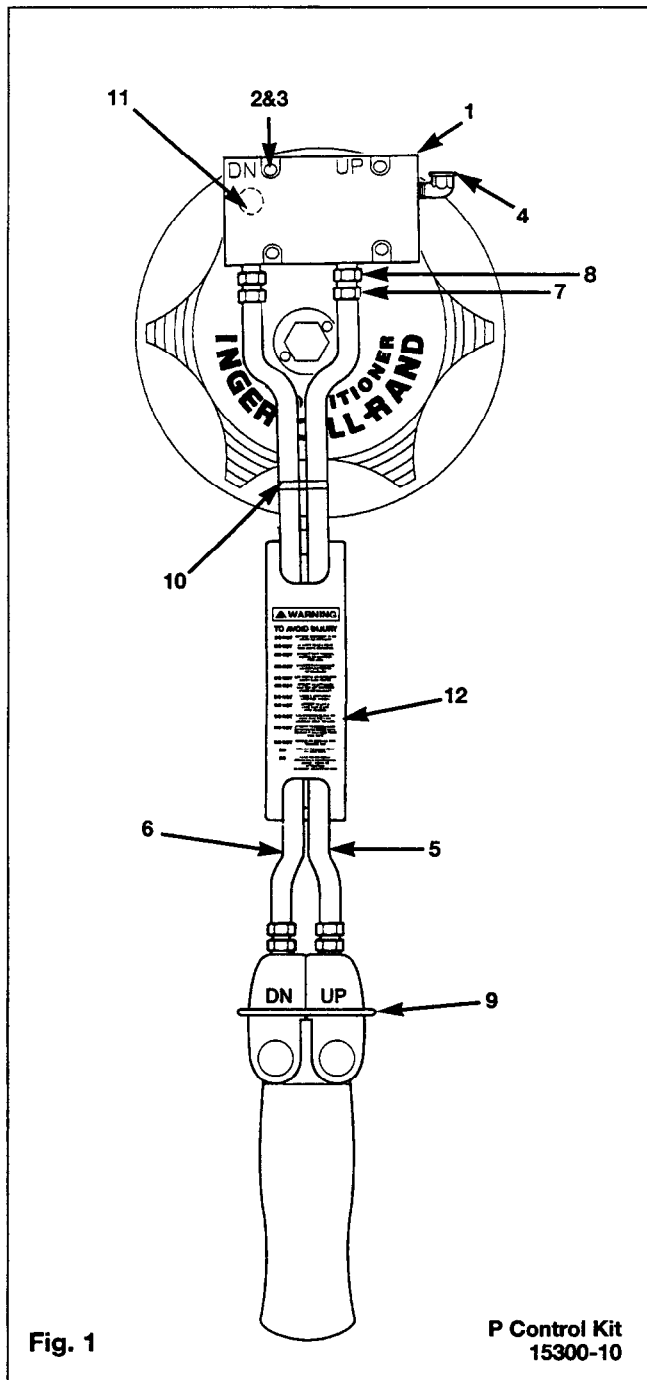

Fig. 1
Manifold Installation Refer to Fig. 1.
1. Lower suspended load to floor. Turn off air supply to unit and press down lever until wire rope is slack. Refer to Fig. 1.
2. Remove air supply (4) and hoses (5 & 6) from manifold (1).
Removal From Unit Refer to Fig. 1.